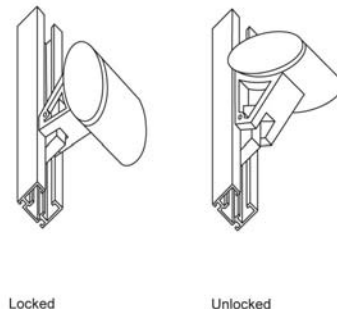

Figure 10 Tracklock Operation
- Insert the wand hook into the operating ring on the bottom rail and operate the shade in both directions to ensure it moves freely. To lock the shade in any position, rotate the bottom rail into the locked position as shown in Figure 10.